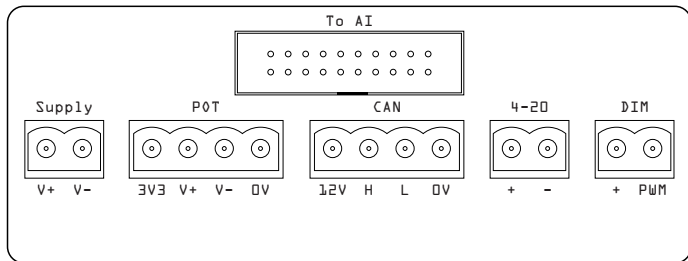

Figure 2.
- ▶ In external mode the LED brightness is controlled by an external dimmer connected to the DIM terminals on the I/O board (see Figure 2).